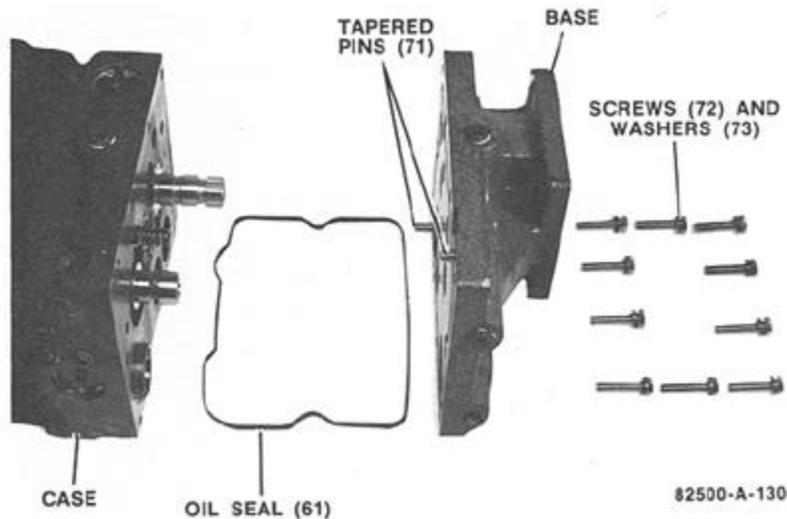

Figure 5-26. Base Assembly
Lubricate base oil seal (61) and place it in groove on base. Assemble base to case and secure it with lock washers (72) and screws (73). See Figure 5-26. Check bushing rotation for freeness before tightening screws (73).